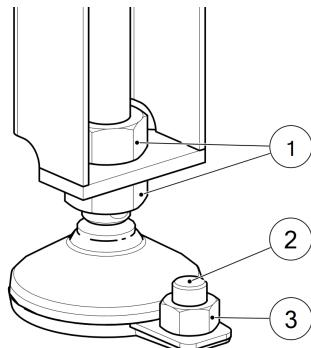

Figure 5 Floor leg
3. Drill holes for the floor rods **2** that keep the SensorX 502 in place Figure 5.